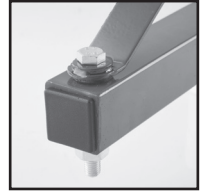

Fig 5
6. Place the hoist frame stay support bolt through the flat washer, then feed through the hoist frame stay support (2), through the hole in the end of the hoist frame support bar (11). Fit the spring washer and nut then tighten (Fig 5).